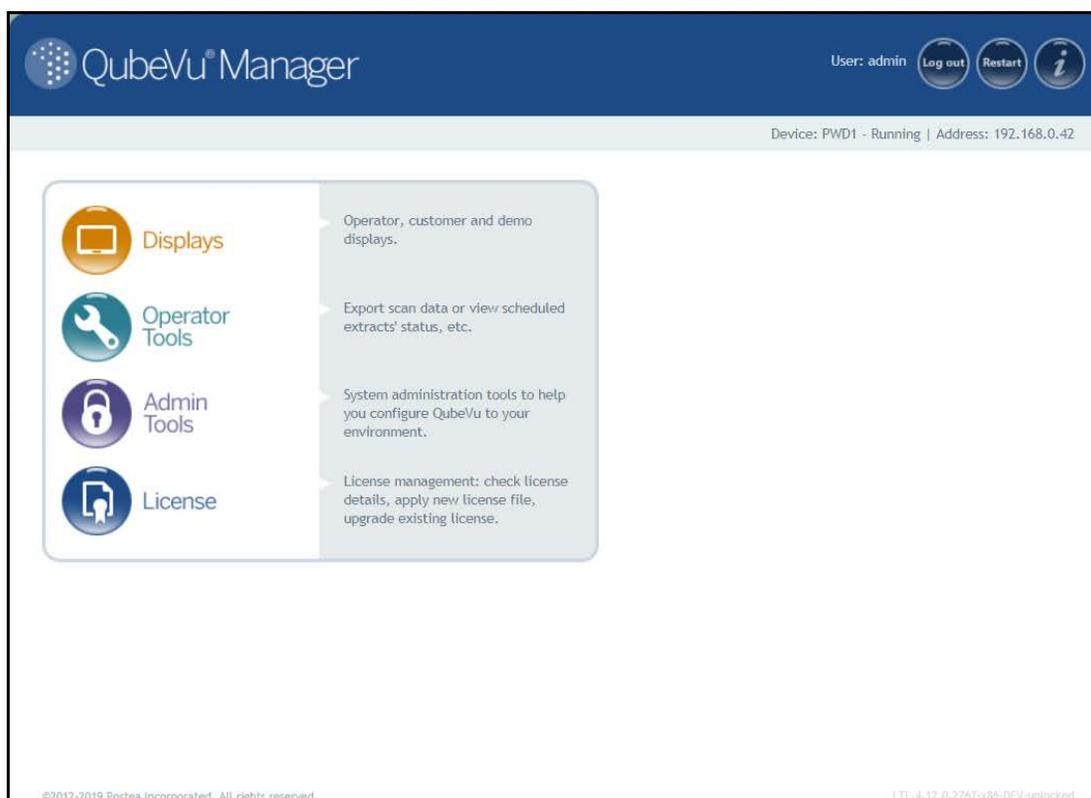
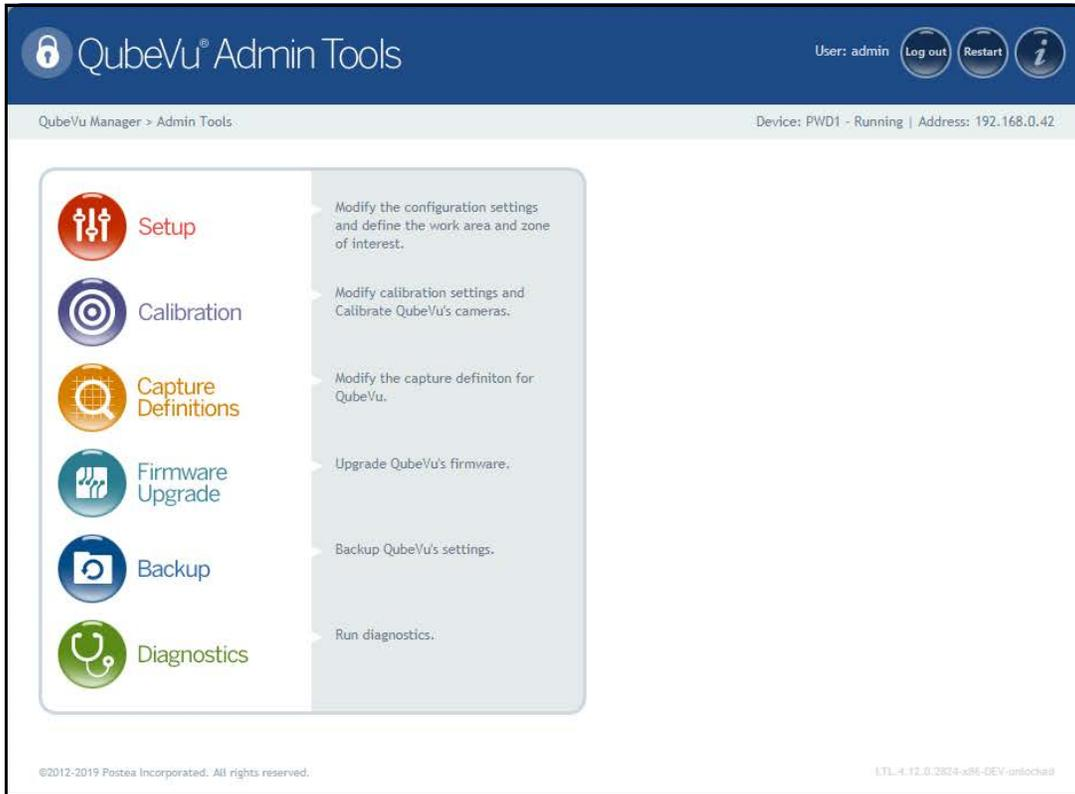

Figure 5-1. QubeVu Manager Home Page
Figure 5-2. Admin Tools Menu
3. Press  **Admin Tools** from the **QubeVu Manager** menu (Figure 5-1 on page 15) to enter the **Admin Tools** menu (Figure 5-2).
5. Press  Calibration from the **Admin Tools** menu (Figure 5-2 on page 16) to enter the **Calibration** menu.
1. Press  **Admin Tools** from the **QubeVu Manager** menu (Figure 5-1 on page 15) to enter the **Admin Tools** menu (Figure 5-2 on page 16).
3. Press  **Diagnostics** from the **Admin Tools** menu (Figure 5-2 on page 16) to enter the **Diagnostics** menu.